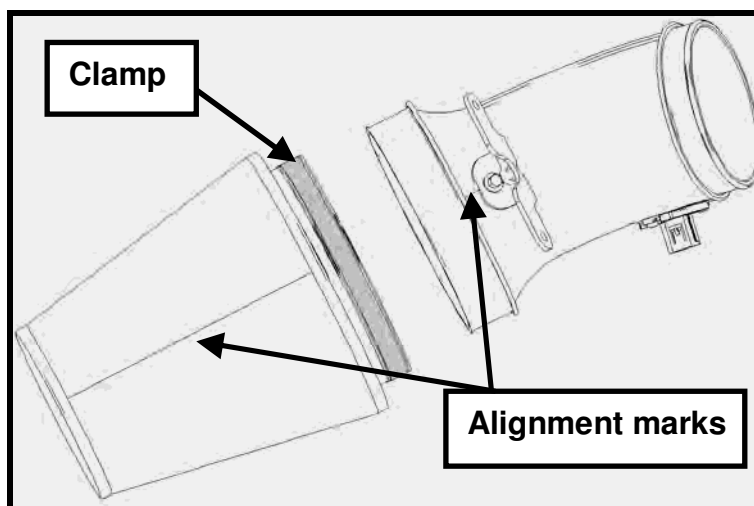

Fig. 6
STEP 3: Install the air filter (R07060131) to the clean air tube and torque the worm drive clamp to 3 Nm (26 lb in). **NOTE:** Align the metal strip on the air filter with the alignment mark on the clean air tube (See Fig. 6).